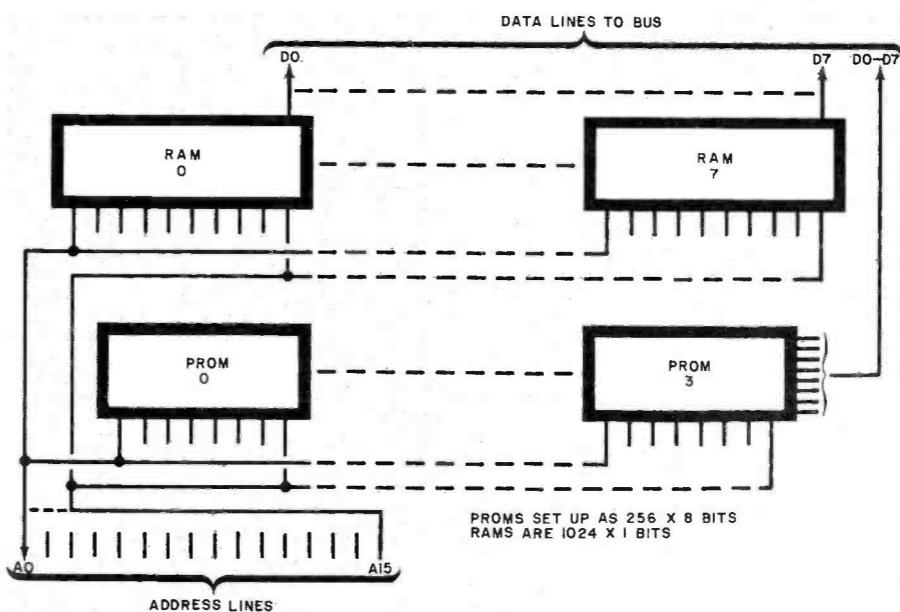

Fig. 2. There are eight RAM's (RAM 0 through RAM 7) and four PROM's (PROM 0 through PROM 3) in the computer's memory system.
**Memory.** The memory system consists of 1024 words of 8-bit-wide RAM, using 2102-type 1024 × 1-bit devices, and up to 1024 words of PROM, using ultraviolet-erasable 1702 devices. The basic arrangement is shown in Fig. 2. The low-order address bits are fed to both the RAM's and PROM's.